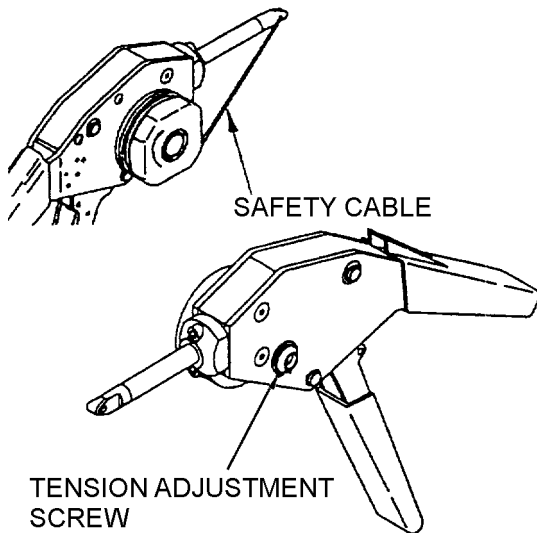

Figure 32. Adjustable Tension Safety Cable Tool.
52. **ADJUSTABLE TENSION TOOL** (Figure 32). Thread the safety cable through the fastener, ferrule, and tool nose in the same way as with other models. Wrap the cable one full revolution (clockwise) around the tension wheel, and with slight pressure applied by pulling the cable, secure the cable into the slot. Rotate the tension knob until several clicks are heard and felt. If additional tension is required, adjustment can be made with the tension adjuster on the opposite side of the tool.